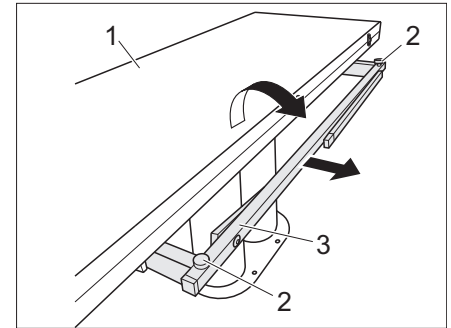

Fig. 69 Increasing the table size
- ▶ Pull out the table base (Fig. 69,3).
- ▶ Fold out the table half (Fig. 69,1).
- ▶ Use the two adjusting screws (Fig. 69,2) to adjust the table-top to the desired height.